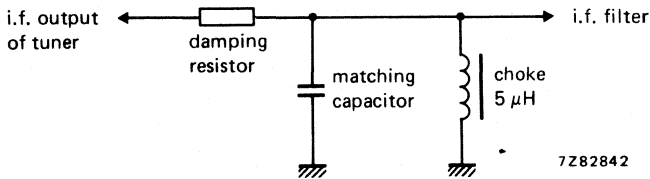

Fig. 8.
The tuner needs a d.c. path from the i.f. output terminal (10) to earth, preferably via a choke of approx.  $5 \mu\text{H}$  outside the tuner (Fig. 8). For damping the i.f. output circuit and matching the i.f. output impedance of the tuner to the i.f. amplifier, a series resistor and a parallel capacitor as shown in Fig. 8 should be used.